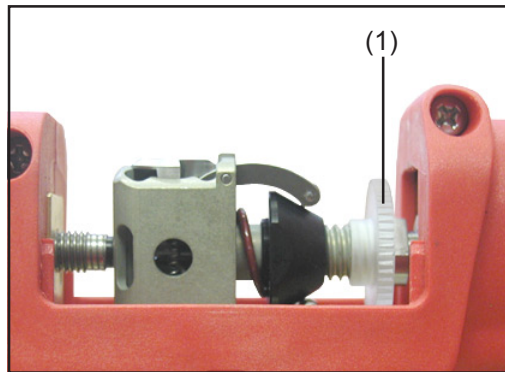

Fig.44 Engaging the PT Drive
- Screw the knurled nut (1) back into its original position (B) - see Fig.44.